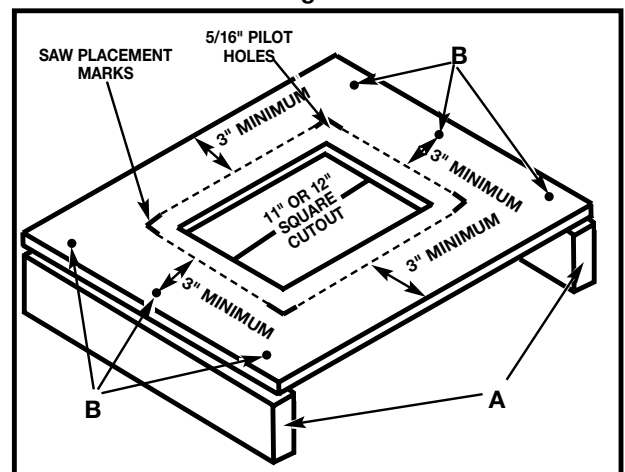

Fig. 4B
You can also construct a simple elevated support, as shown in Fig. 4B.
Square the saw on the supporting surface and mark the location for four 5/16 inch holes to be drilled (Fig. 4B).
Set the saw aside and then drill holes in these marks. Locate and mark an 11 inch or 12 inch square centered between the four mounting holes. Cut out and remove the square (Fig. 4B). To elevate the supporting surface, measure two 2x4s (A) Fig. 4B to the width of two opposite sides of the supporting surface. Attach the supporting surface to the narrow edges of the 2X4s (as shown in Fig. 4B) using wood screws (not provided) in at least three spots (B) Fig. 4B on each side. Fasten the saw to the surface by inserting suitable hardware (not supplied) through the mounting holes on the saw and into the previously drilled holes. While using the saw, periodically remove the sawdust buildup from below the saw.